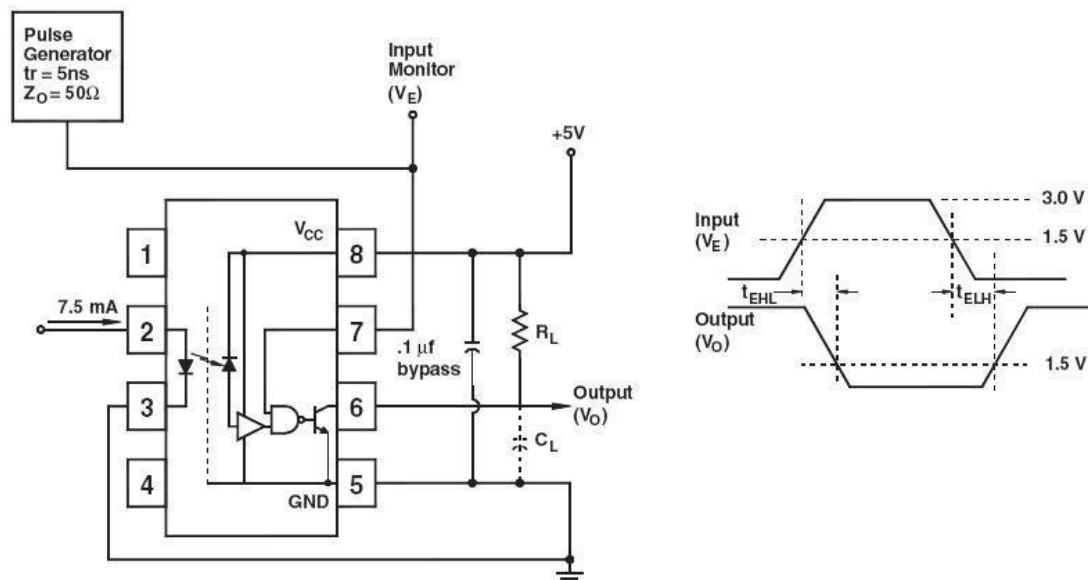

Fig. 13 Test Circuit  $t_{EHL}$  and  $t_{ELH}$
| Enable Propagation Delay Time to Output HIGH Level    | $t_{ELH}$             | $I_F = 7.5\text{mA}$ , $V_{EH} = 3.5\text{V}$ , $R_L = 350\Omega$$C_L = 15\text{pF}$ (8) (Fig. 13)                                                     |                            |      | 20    |     | ns               |
| Enable Propagation Delay Time to Output LOW Level     | $t_{EHL}$             | $I_F = 7.5\text{mA}$ , $V_{EH} = 3.5\text{V}$ , $R_L = 350\Omega$$C_L = 15\text{pF}$ (9) (Fig. 13)                                                     |                            |      | 20    |     | ns               |